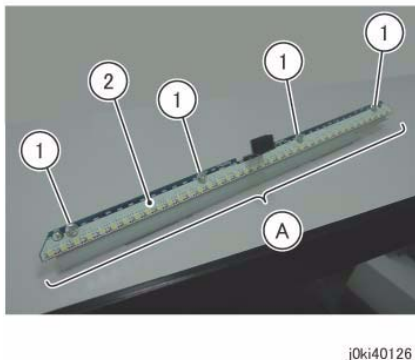

Figure 3 Remove the LED Lamp PWB
8. Remove the LED Lamp PWB. (Figure 3)